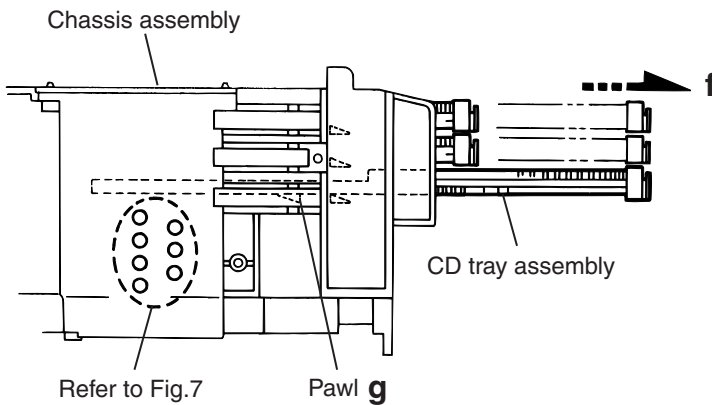

Fig.6
12. Make sure that the driver unit elevator is positioned as shown in Fig.6 from to the second or fifth hole on the left side face of the CD changer mechanism assembly.
(See Fig.6).